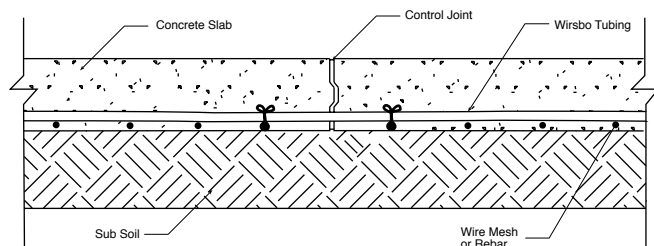

**Figure 4-7**
**Avoiding the Expansion Joint** — Dip the tubing below the slab into the subsoil (see **Figure 4-7**).